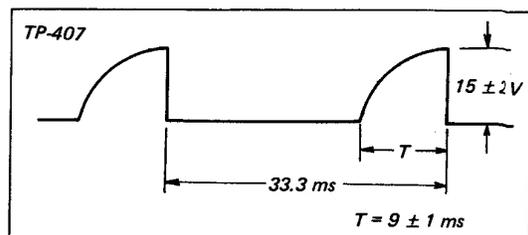

Fig. 6-2. Frequency divider check
Adjust for: The waveform shown in Fig. 6-2.
3. Adjust R433 so that the interval "T" in Fig. 6-2 is 9 ± 1 msec.
4. Confirm that pulse amplitude is 15 ± 2 volt as shown in Fig. 6-2.